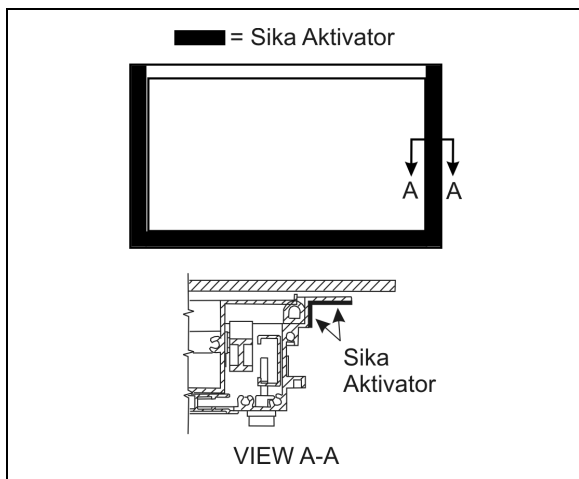

FIGURE 69 : AWNING WINDOW – SIKI AKTIVATOR
- Previously clean surface with anti-silicone and then apply Sika Aktivator as per FIGURE 69;